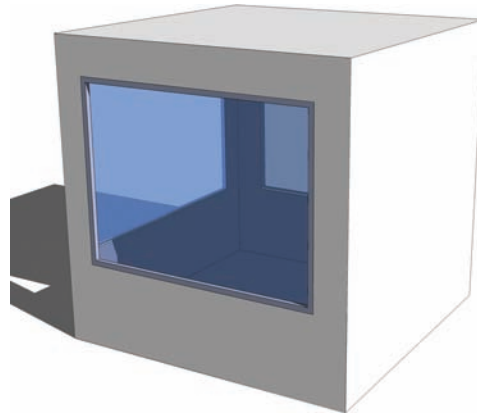

Fig. 9-10: Deleting the Window component causes the cube face to reseal.
12. Delete one of the placed components. Notice that the face of the cube reseals after the window is deleted (Fig. 9-10).